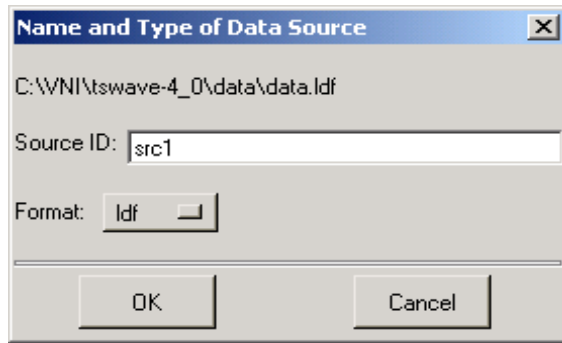

Figure 3-2 Name and Type of Data Source dialog
- Step 3** Select the *data.ldf* file and click **OK**. The **Name and Type of Data Source** dialog appears as shown in Figure 3-2.